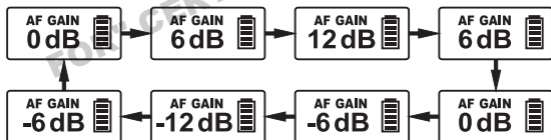

Fig. 10
4. AF Gain Setting, Fig. 10:
- (A) AF Gain can be changed from 12dB ~ -12dB, in 6dB steps.
- (B) Press MODE button to access AF GAIN parameter. Press SET button to change. To save, press MODE button or until flashing stops.
- (C) The higher the AF gain is, the lower the input signal of dynamic range will be and it will increase noise and feedback chances.
- (D) Set AF Gain to -12dB for guitar.
- (E) 0dB is the factory default setting.